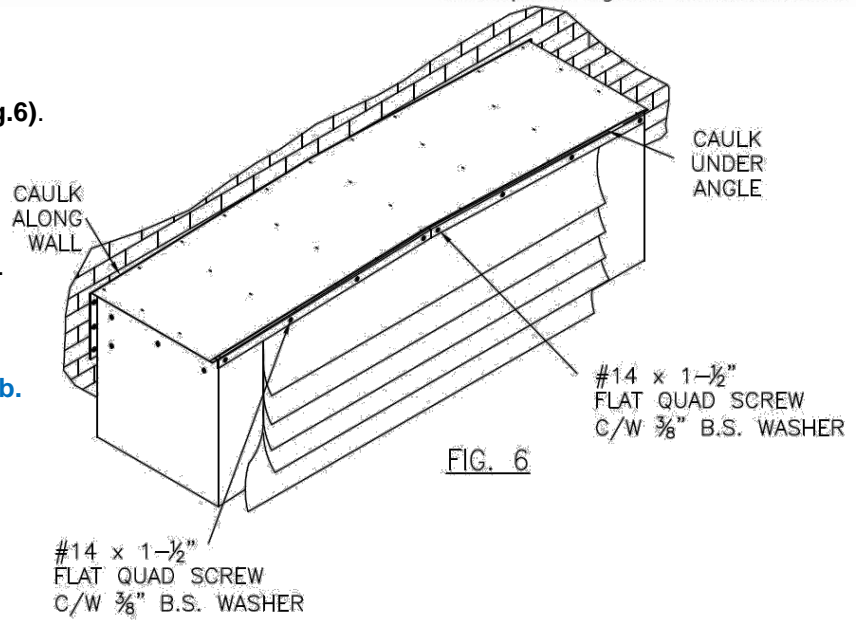

FIG. 6
- ii. Insert #14 Screws and 3/8" washer into holes (**Fig.6**).